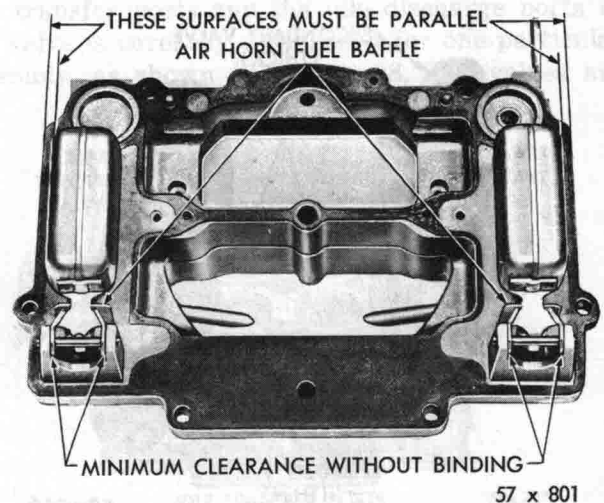

Fig. 31—Checking Float Alignment
(1) Sight down the side of each float shell to determine if the side of the float is parallel to the outer edge of the air horn casting, as shown in Figure 31.
(2) If the sides of the float are not in alignment with the edge of casting, bend the float lever by applying pressure to the end of the float shell with the fingers while supporting the float lever with the thumb. To avoid damage to the float, apply only enough pressure to bend the float lever.